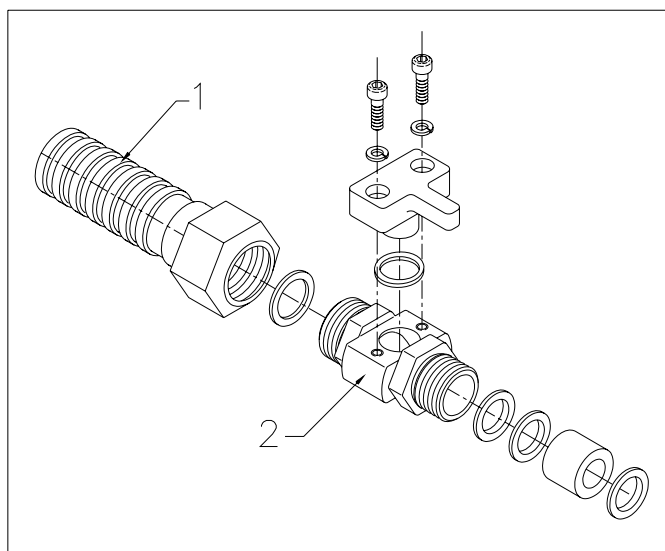

Fig. 9.2
When chemical or mechanical protection for the cable is needed a tube can be fitted around the cable (Fig. 9.2 pos 1).
This is a flexible stainless steel tube (1) connected to a special cable entry (Fig.9.2 pos 2).